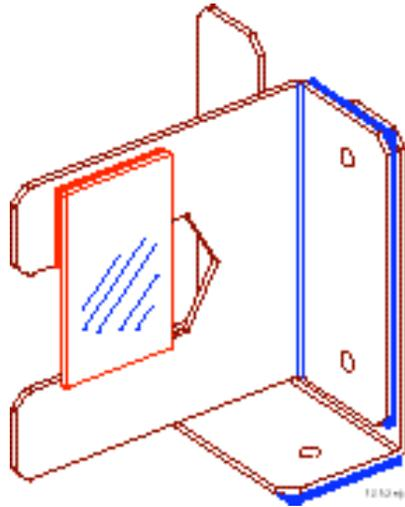

Figure 6. Proper mounting of two optics mounts with beam splitter installed for splitting the laser beam into two portions
12. Plug the 110 (220) VAC-to-12 VDC power adapter (provided with the receiver) into a 110 (220) VAC wall outlet.
18. Attach two universal optics mounts and the beam splitter as shown in **Figure 6**. Place this assembly on the optics table using the white outline for positioning.